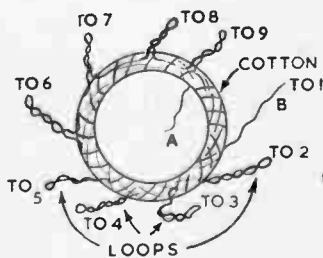

Fig. 2—The coil
Carefully scrape each tapping and ends (A) and (B) to remove the insulation. Do not fracture the wire. Fig. 2 shows the finished coil.